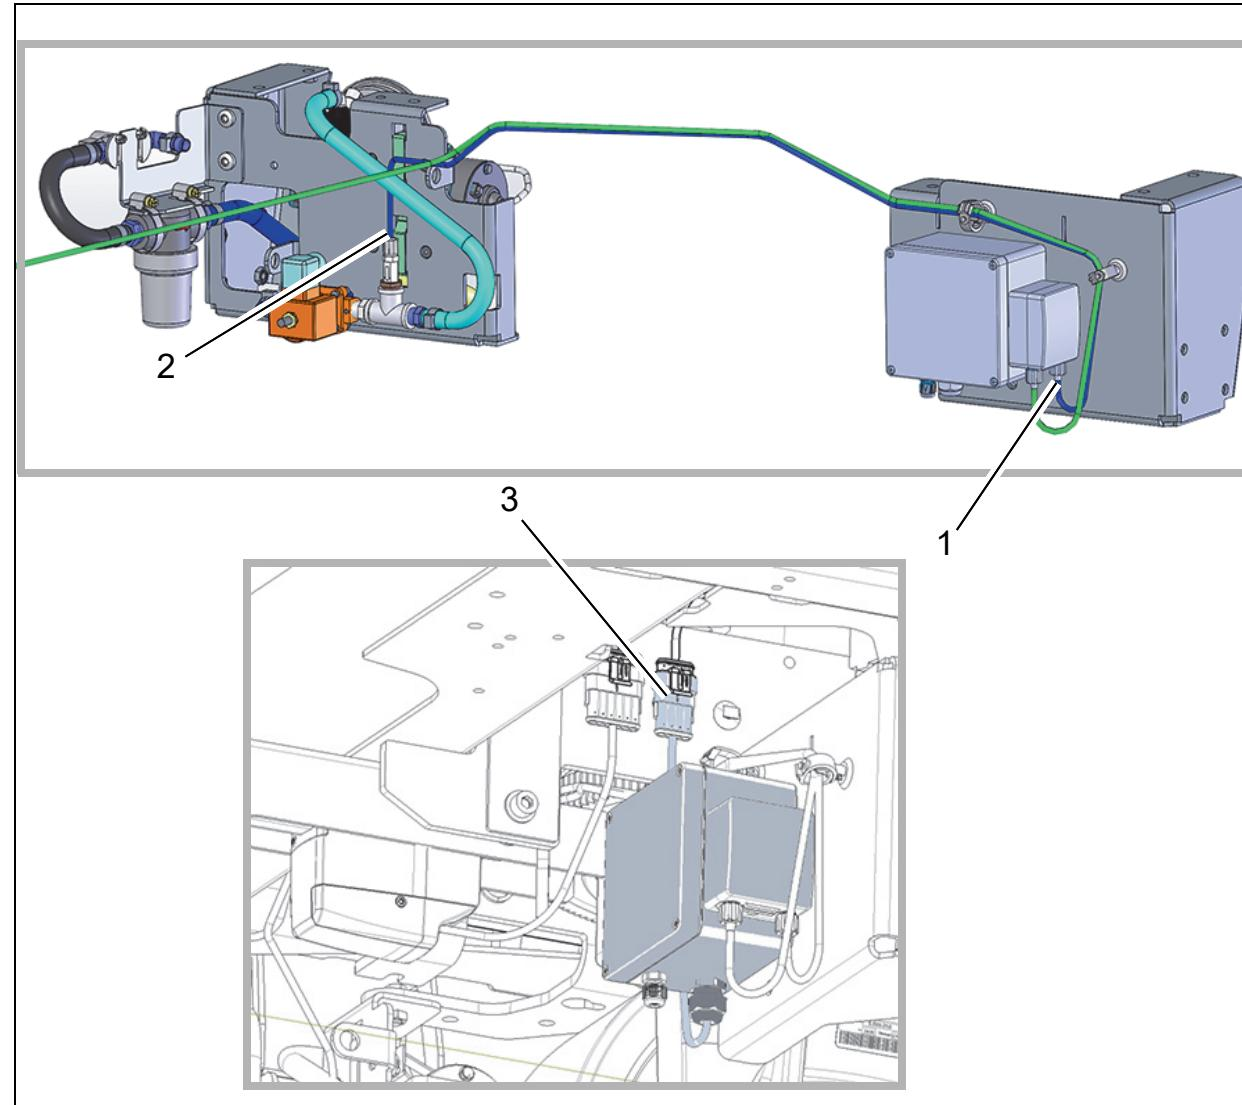

Fig. 6
1. Connect the 1175 mm long dosing hose (shown in blue) to the right-hand connection of the dosing pump (Fig. 6/1).
2. Feed the dosing hose along the hose (shown in green) up to the non-return valve and then connect it (Fig. 6/2).